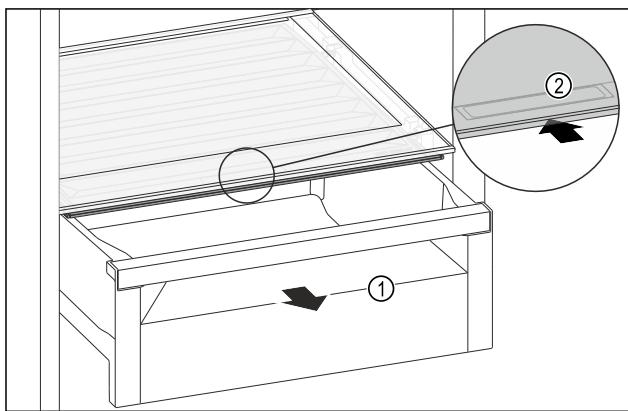

Fig. 138
- ▶ Pull out the drawer Fig. 138 (1).
- ▶ Grasp the recessed grip Fig. 138 (2) on the compartment lid and push the compartment lid backwards at the same time.